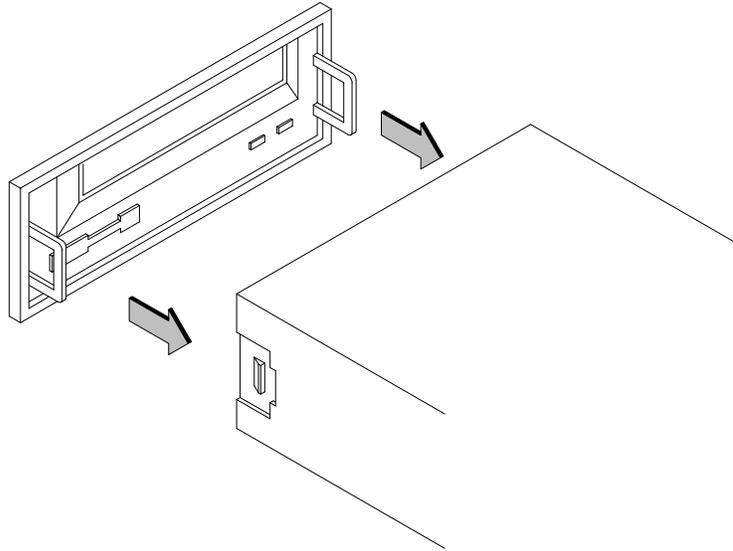

Figure 3-1. Adding a Bezel to the DDS-2 Drive
- To add a bezel (it can be a 3.5-in bezel, or a 5.25-in bezel) to your drive, push onto the drive, making sure the tabs click into place. Refer to Figure 3-1.